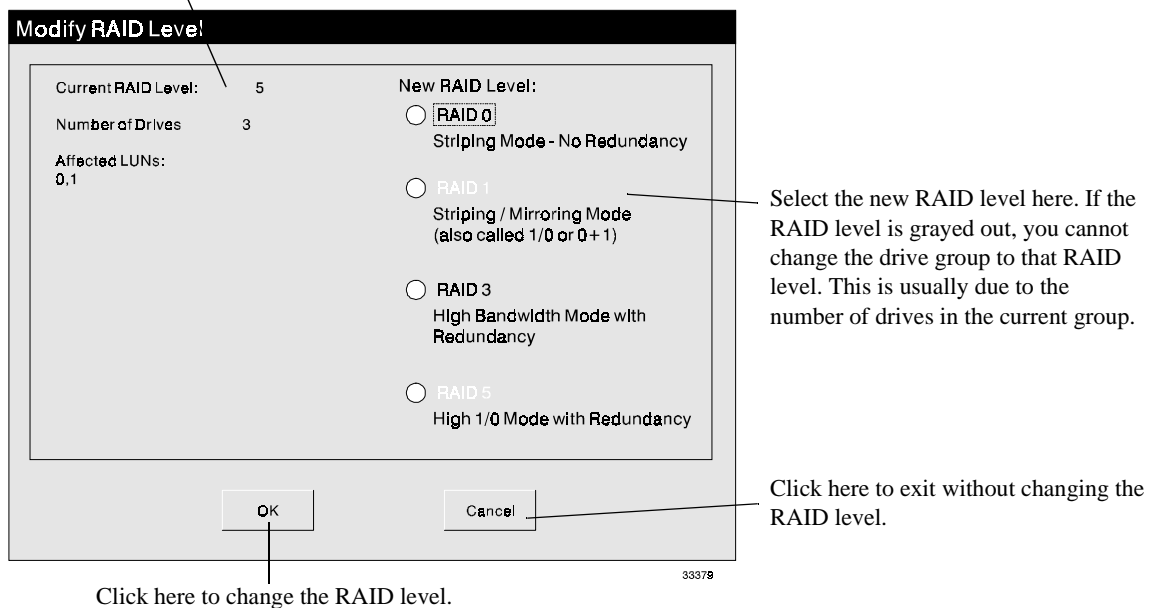

Figure 32. Modify RAID Level Screen
5. Click on the Modify Group/LUNs button, then select Modify RAID Level, or select the option from the drop-down menus. A screen like Figure 32 is displayed.